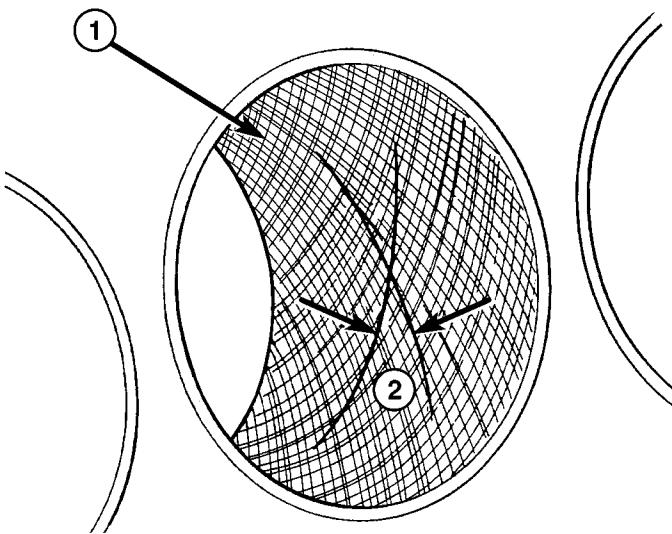

Fig. 41 Cylinder Bore Cross-Hatch Pattern
(2) Deglazing of the cylinder walls may be done using a cylinder surfacing hone, recommended tool C-3501 or equivalent, equipped with 280 grit stones, if the cylinder bore is straight and round. 20-60 strokes depending on the bore condition, will be sufficient to provide a satisfactory surface. Use a light honing oil. **Do not use engine or transmission oil, mineral spirits or kerosene.** Inspect cylinder walls after each 20 strokes.
(3) Honing should be done by moving the hone up and down fast enough to get a cross-hatch pattern. When hone marks **intersect** at 40-60 degrees, the cross hatch angle is most satisfactory for proper seating of rings (Fig. 41).